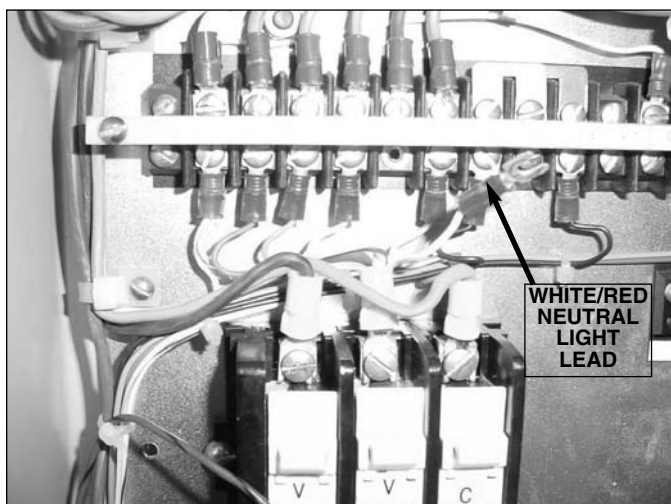

Figure 3.
2. Using a standard screwdriver remove the White/Red Neutral Light lead from TB1-NL (See Figure 3).